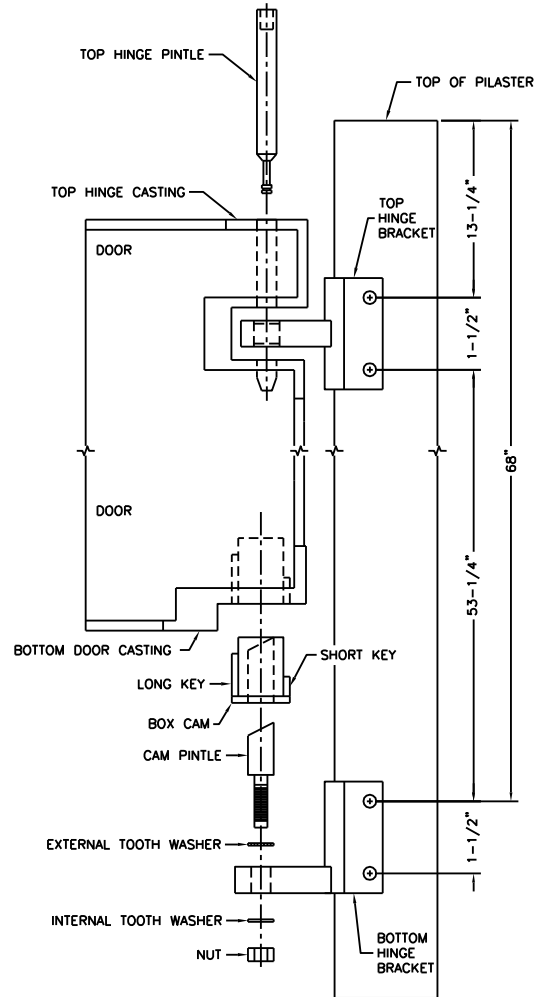

Figure 9A
- a. Attach top and bottom hinge brackets to pilaster with thru bolts (4-total). If pilasters were not pre-drilled at the factory, use dimensions shown in Figure 9A as a drilling ($\frac{1}{4}$ " bit) guide.
- b. Assemble cam pintle, external tooth washer, internal tooth washer, and $\frac{1}{2}$ " hex nut to the bottom hinge bracket as shown in Figure 9A and hand-tighten (to be wrench-tightened later).
- c. Insert box cam into bottom door casting as shown in Figure 9A, with short key pointing toward hinge side (edge) of door.
- d. Set door onto bottom hinge cam pintle. Bring door up so the top hinge casting is in line with the top hinge bracket as shown in Figure 9A. Insert the top hinge pintle and tap it down so it's flush with the top of the door.